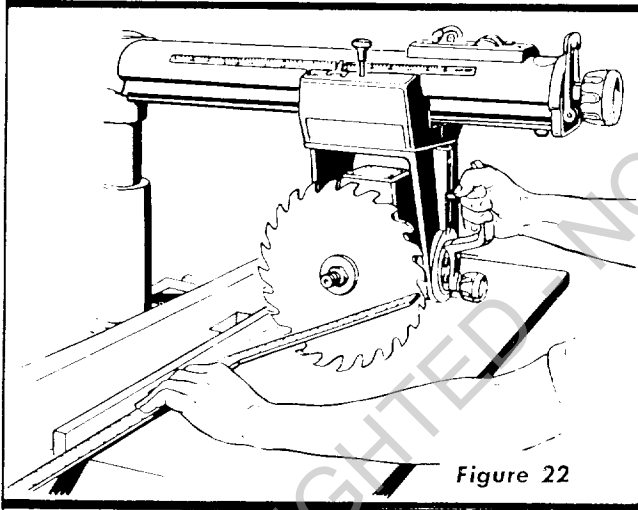

Figure 22
1. Place a square against the rip fence and the saw blade as shown in figure 22. The long leg of the square must be held firmly against the rip fence and the short leg must not touch any of the teeth on the saw blade.